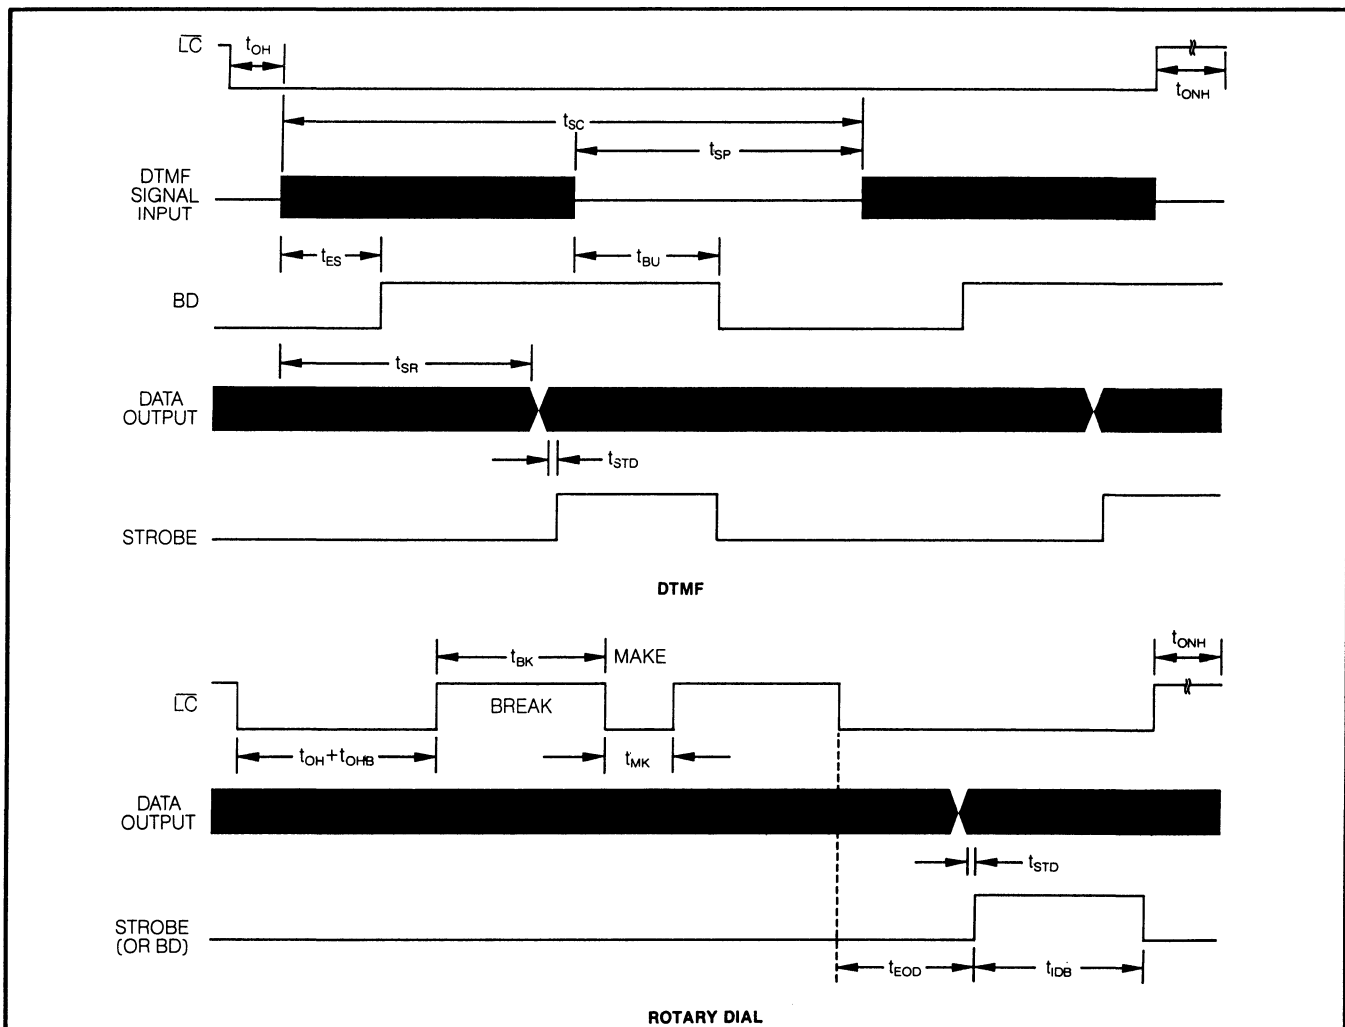

Figure 7 Timing Diagram
- Symbol definition portrayed in Figure 7.